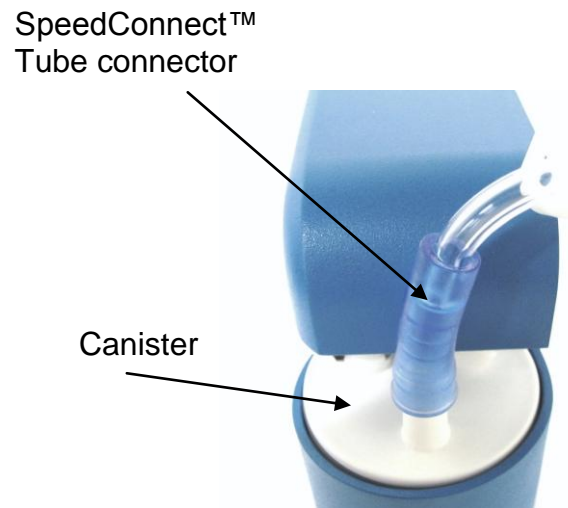

Fig. 5
3. Connect the distal end of the SpeedConnect™ Tube with the blue tapered connector to the Patient port of the Canister (see Figure 5). Gently twist and push the connector on just enough to secure and seal it. Also, make sure that the clamp on the SpeedConnect™ Tube is open (see Figure 6).